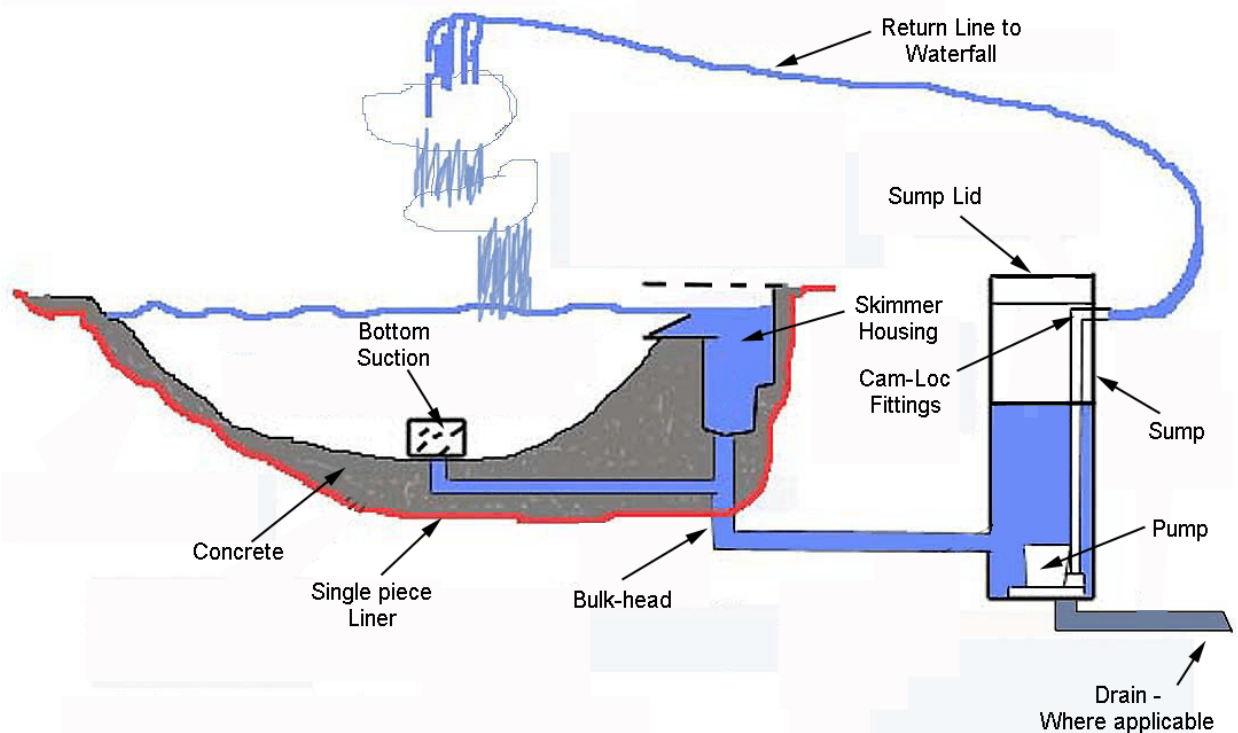

Figure 2
7. Install pump in sump and plug into electrical outlet. If there is a ball valve on the discharge line adjust water flow to maintain a slight back pressure on pump. This is done by partially closing valve as in the position of the light blue handle. (Figure 3) **DO NOT DROP PUMP INTO SUMP. DOING SO COULD CRACK PLASTIC SUMP FLOOR.** (Fig. 2)
3. Outer Plumbing: All of your system outside of the pond is engineered to be failure proof. It is a time tested design that we have used for over 20 years. The “outer plumbing” is everything outside of the liner from bulk-head. (See fig 2)